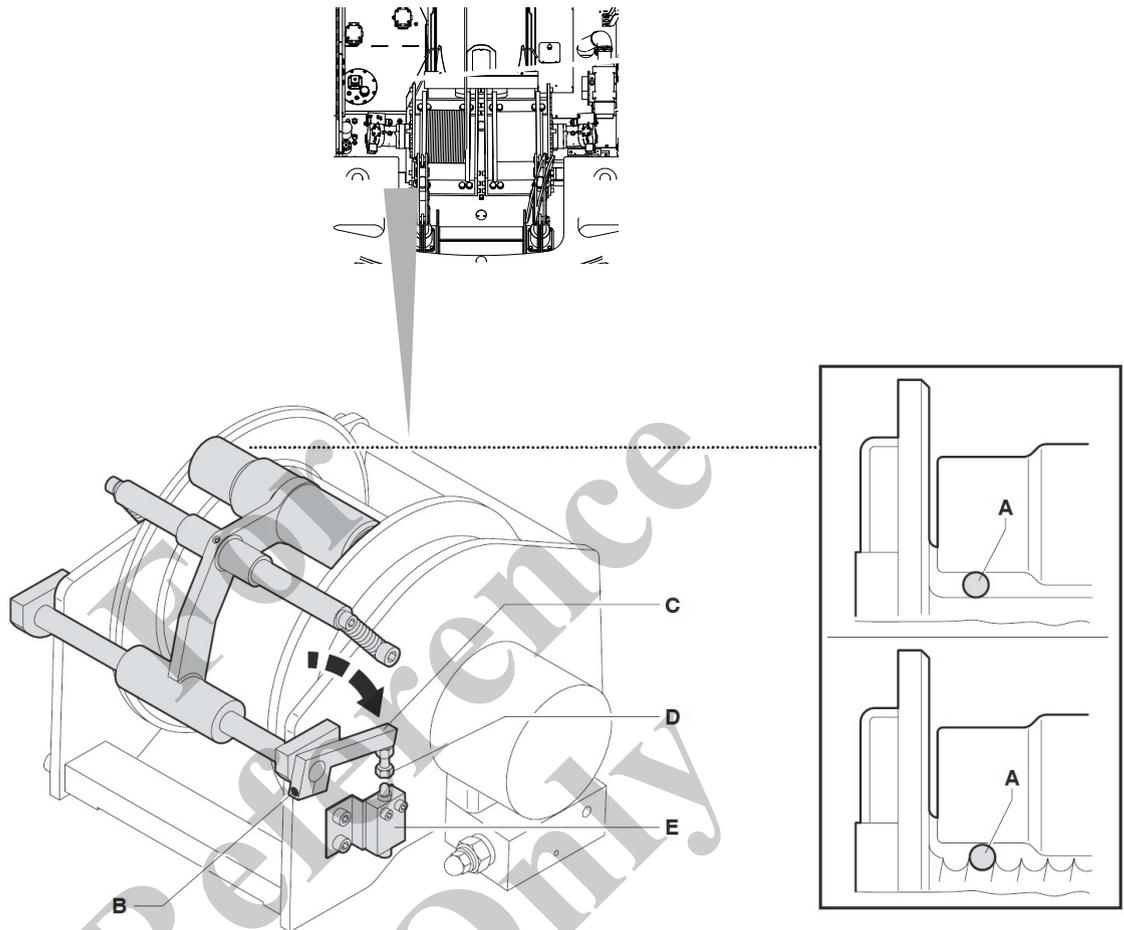

Fig. 73 Lowering limit switch on the winch
1	Insert a spacer (A) in Fig. 73 with the same diameter as the rope under the end of the sheave.
2	Loosen the screw (B) in Fig. 73.
3	Turn the lever (C) in Fig. 73 until the screw (D) in Fig. 73 triggers the switch (E) in Fig. 73.
4	Tighten the screw (B) in Fig. 73.